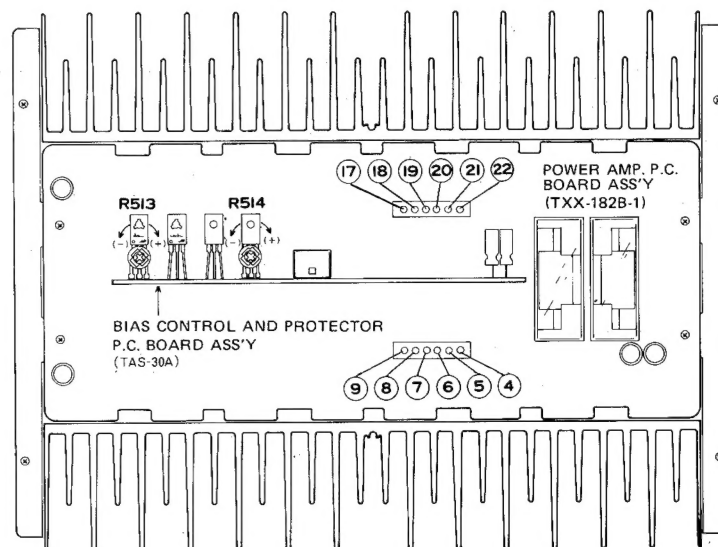

Fig. 13
1. Before turning on the power, turn semi-fixed resistors, R513 (L channel) and R514 (R channel) of the bias control and protection circuit board, fully counterclockwise (refer to Fig. 13).
2. After turning the power on, adjust R513 and R514 and so that the voltage between the test points of the power amplifier (see Fig. 13) is within the range 40 mV – 60 mV.